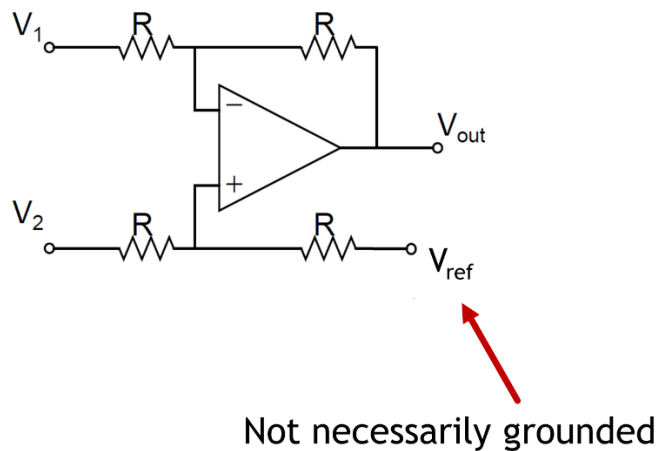

Figure 2. Difference amp with reference potential.
2. Figure 2 shows a difference amplifier, but now there is a reference potential introduced at the 'bottom right', as indicated by red arrow. This connection is not necessarily grounded. Show that the input-output relation is given by:
- List 2 or more practical shortcomings with using the difference amps shown in Figures 2 and 3?